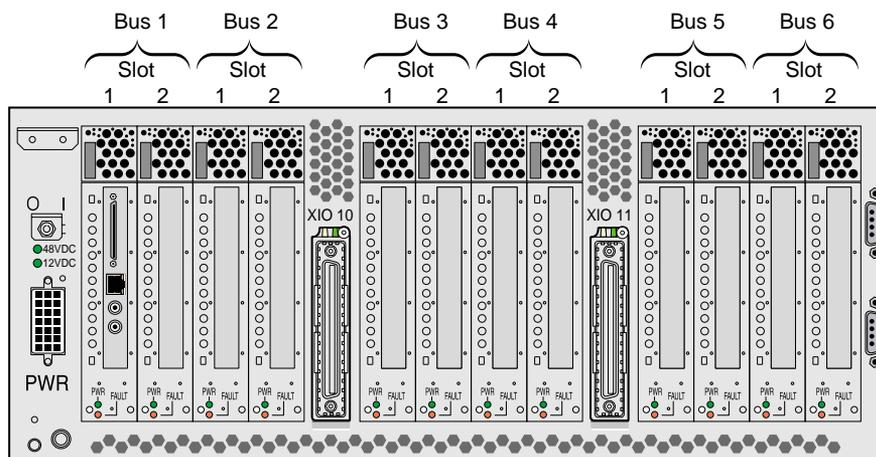

Figure 4-6 Numbering of IX-brick PCI-X Slots
- **PCI-X slots.** These slots seat the PCI cards. The card slots are numbered bus 1 through bus 6. Each bus has two slots, labeled 1 and 2, as shown in Figure 4-6.
The PCI-X slots are numbered bus 1 through bus 6. Each bus has two slots, labeled 1 and 2, as shown in Figure 4-6. Separate buses enable the IX-brick to run cards of different frequencies at the same time. For example, bus 1 can have one 133-MHz card, bus 2 can have two 66-MHz cards, bus 3 can have two 33-MHz cards, and so on. Each PCI-X bus supports 32-bit and 64-bit PCI or PCI-X cards at the same time.